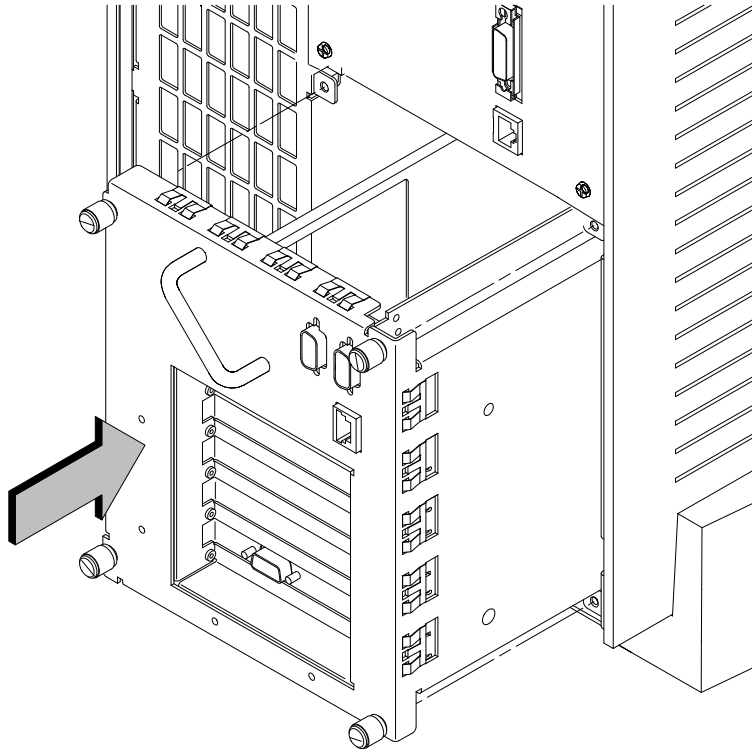

Figure A-39. Replacing EISA Assembly
9. Slide the EISA Assembly into the system unit and secure it with the four captive screws. See Figure A-39.